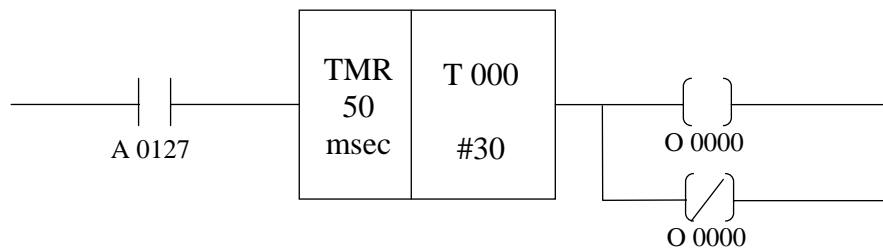

Fig 5-9 Servo-on arrangement in PLC Program
4. Relays A and B are connected to two (2) outputs from PLC. Example of servo-on in PLC is shown in Fig 5-9 below.